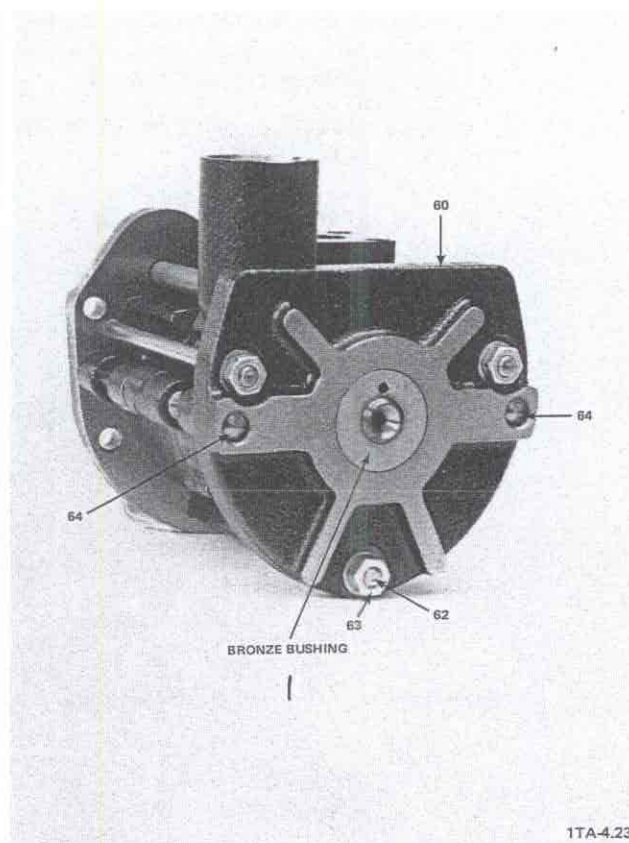

Figure 5-6. Rear End of Module Minus the Disk (D2A Pump Model Shown)
- C-9** Unscrew and remove the hexagon nuts (63) and washers from the ends of the threaded studs (62) which tie the module segments together (see Figure 5-6).
- C-10** Remove the rear end plate (60) from the module (see Figure 5-6).